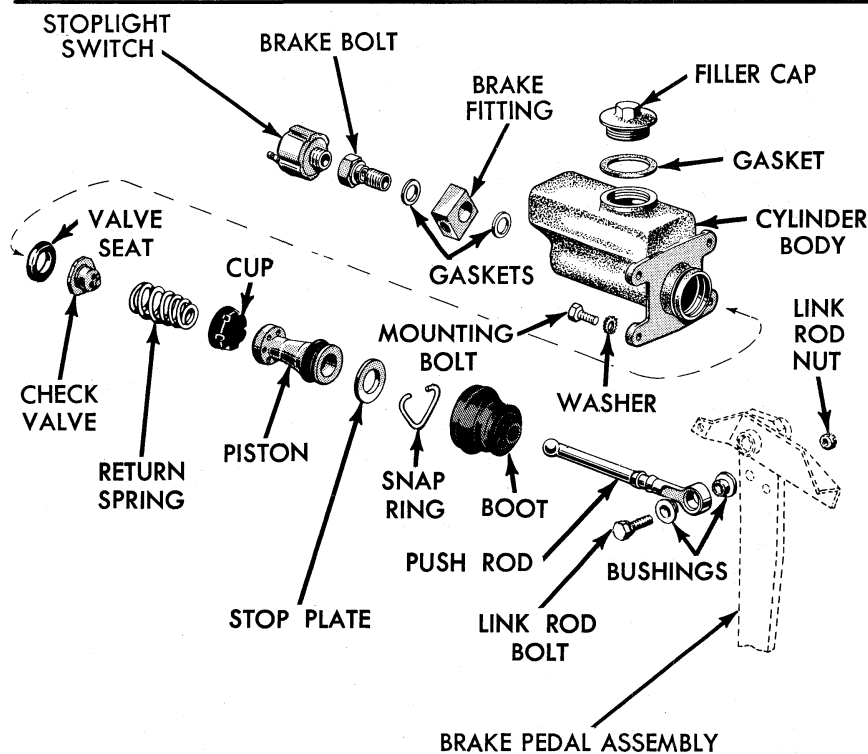

FIG. 26—B-, F-, N-, P- or T-Series Brake Master Cylinder—
master cylinder, brake bolt, fitting, and gaskets from the forward end of the cylinder (Fig. 26). Discard the gaskets. Remove the snap ring from the bore at the rear end of the cylinder, and remove the stop plate, piston, cup, spring, check valve, and seat from the cylinder bore. If necessary, blow through the forward bolt hole to remove the parts.
2. On a B-, F-, N-, P-, or T-Series truck with a box-shaped master cylinder reservoir, install the brake fitting, bolt, and new gaskets (Fig. 26)